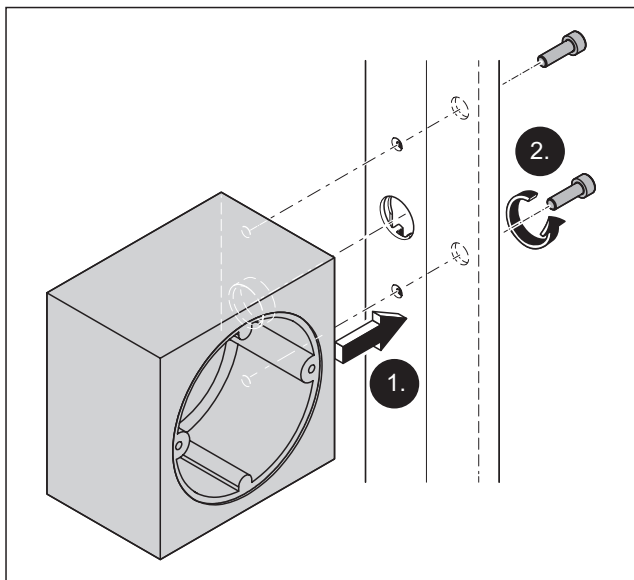

Abb. 12 Fixing the electromodule in place on the cover profile for the door frame
1. Align the electromodule to the intended cable bushing (Abb. 12).